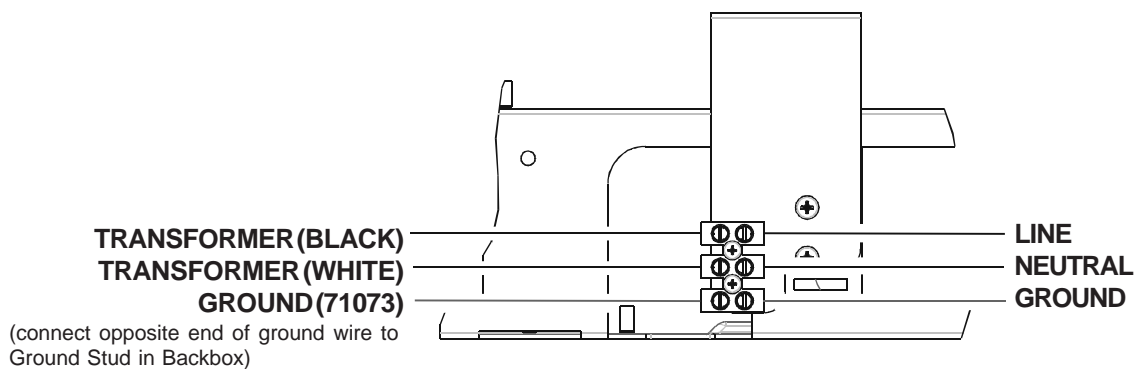

Figure 2: Wire Connections To AC Terminal Block
3. Connect the AC Power wires and the Transformer wires as illustrated in Figure 2.